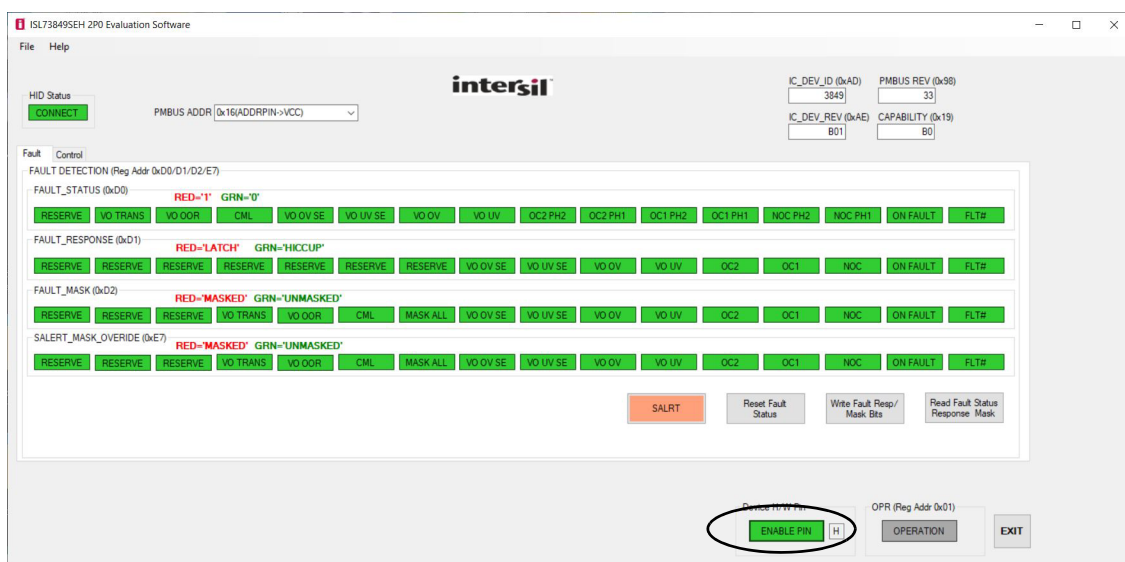

Figure 4. Click the ENBLE PIN Button
- Enable the ISL73849M with the Device H/W Pin (**ENABLE PIN** button) on the GUI as shown in Figure 4. The board is enabled and is immediately disabled with the PMBus OPERATION bit.